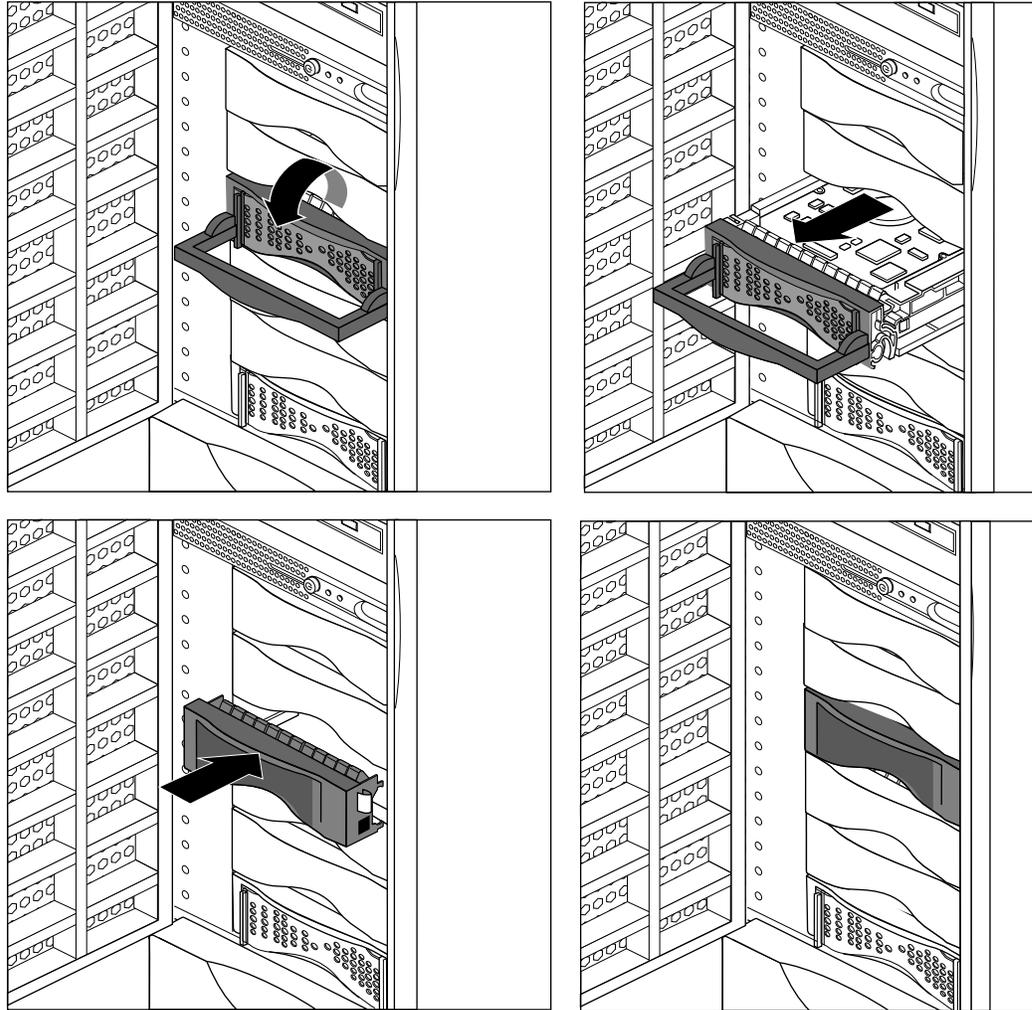

Figure 7-19 Removing a 3.5-inch Drive from Origin200
3. Remove the drive, as shown in Figure 7-19.
4. If you are not replacing the drive with another peripheral, cover the open slot with a plastic blanking plate, as shown in Figure 7-19.